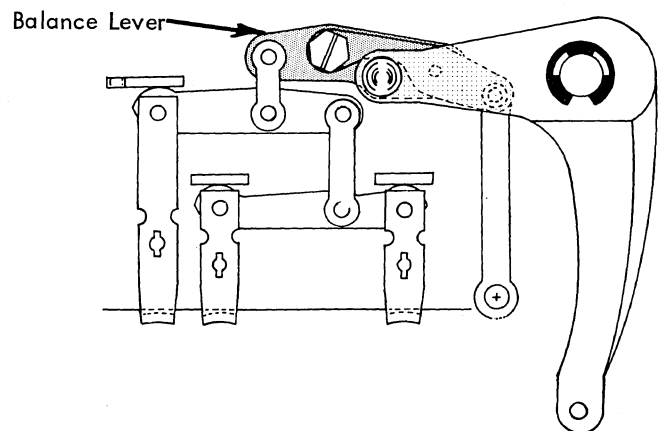

FIGURE 75. Balance Lever Adjustment
9. Balance Lever - With the machine in upper case loosen the lock nut on the balance lever and move the right hand member of the balance lever (Fig. 75) left or right until a half-cycled $+5/-5$ (I/O home) combination detents (coarse aligns) the same as a half-cycled zero rotate character. The combination can easily be obtained by holding the negative-5 select magnet armature.